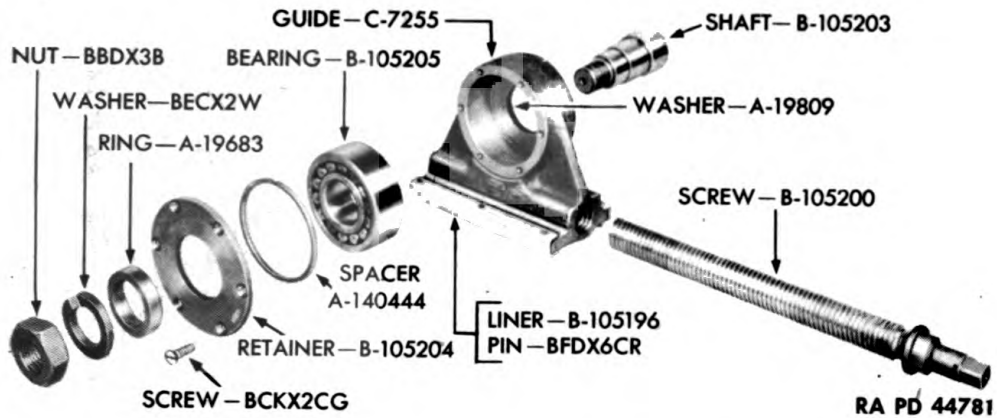

Figure 83—Equilibrator Guide—Exploded View
(1) Remove six screws BCKX2CG from roller bearing retainer B105204 and guide C7255, and remove retainer (fig. 83).
(2) Push bearing spacer A140444 and bearing B105205 from guide C7255, and unscrew screw B105200 from guide.
a. Assemble Equilibrator Guide (fig. 83).
(1) Pack the equilibrator shaft connecting roller bearing thoroughly with **GREASE**, general purpose (seasonal grade). Grease the inside bearing surface of equilibrator guide and insert the roller bearing in the guide. Follow with roller bearing spacer.
(2) Coat threads of equilibrator guide adjusting screw lightly with **GREASE**, general purpose (seasonal grade). Run screw in place in equilibrator guide.
(3) Coat mating surfaces of roller bearing retainer and equilibrator guide and the threads of the six retaining screws with **COMPOUND**, rust-preventive, light. Assemble retainer to guide.